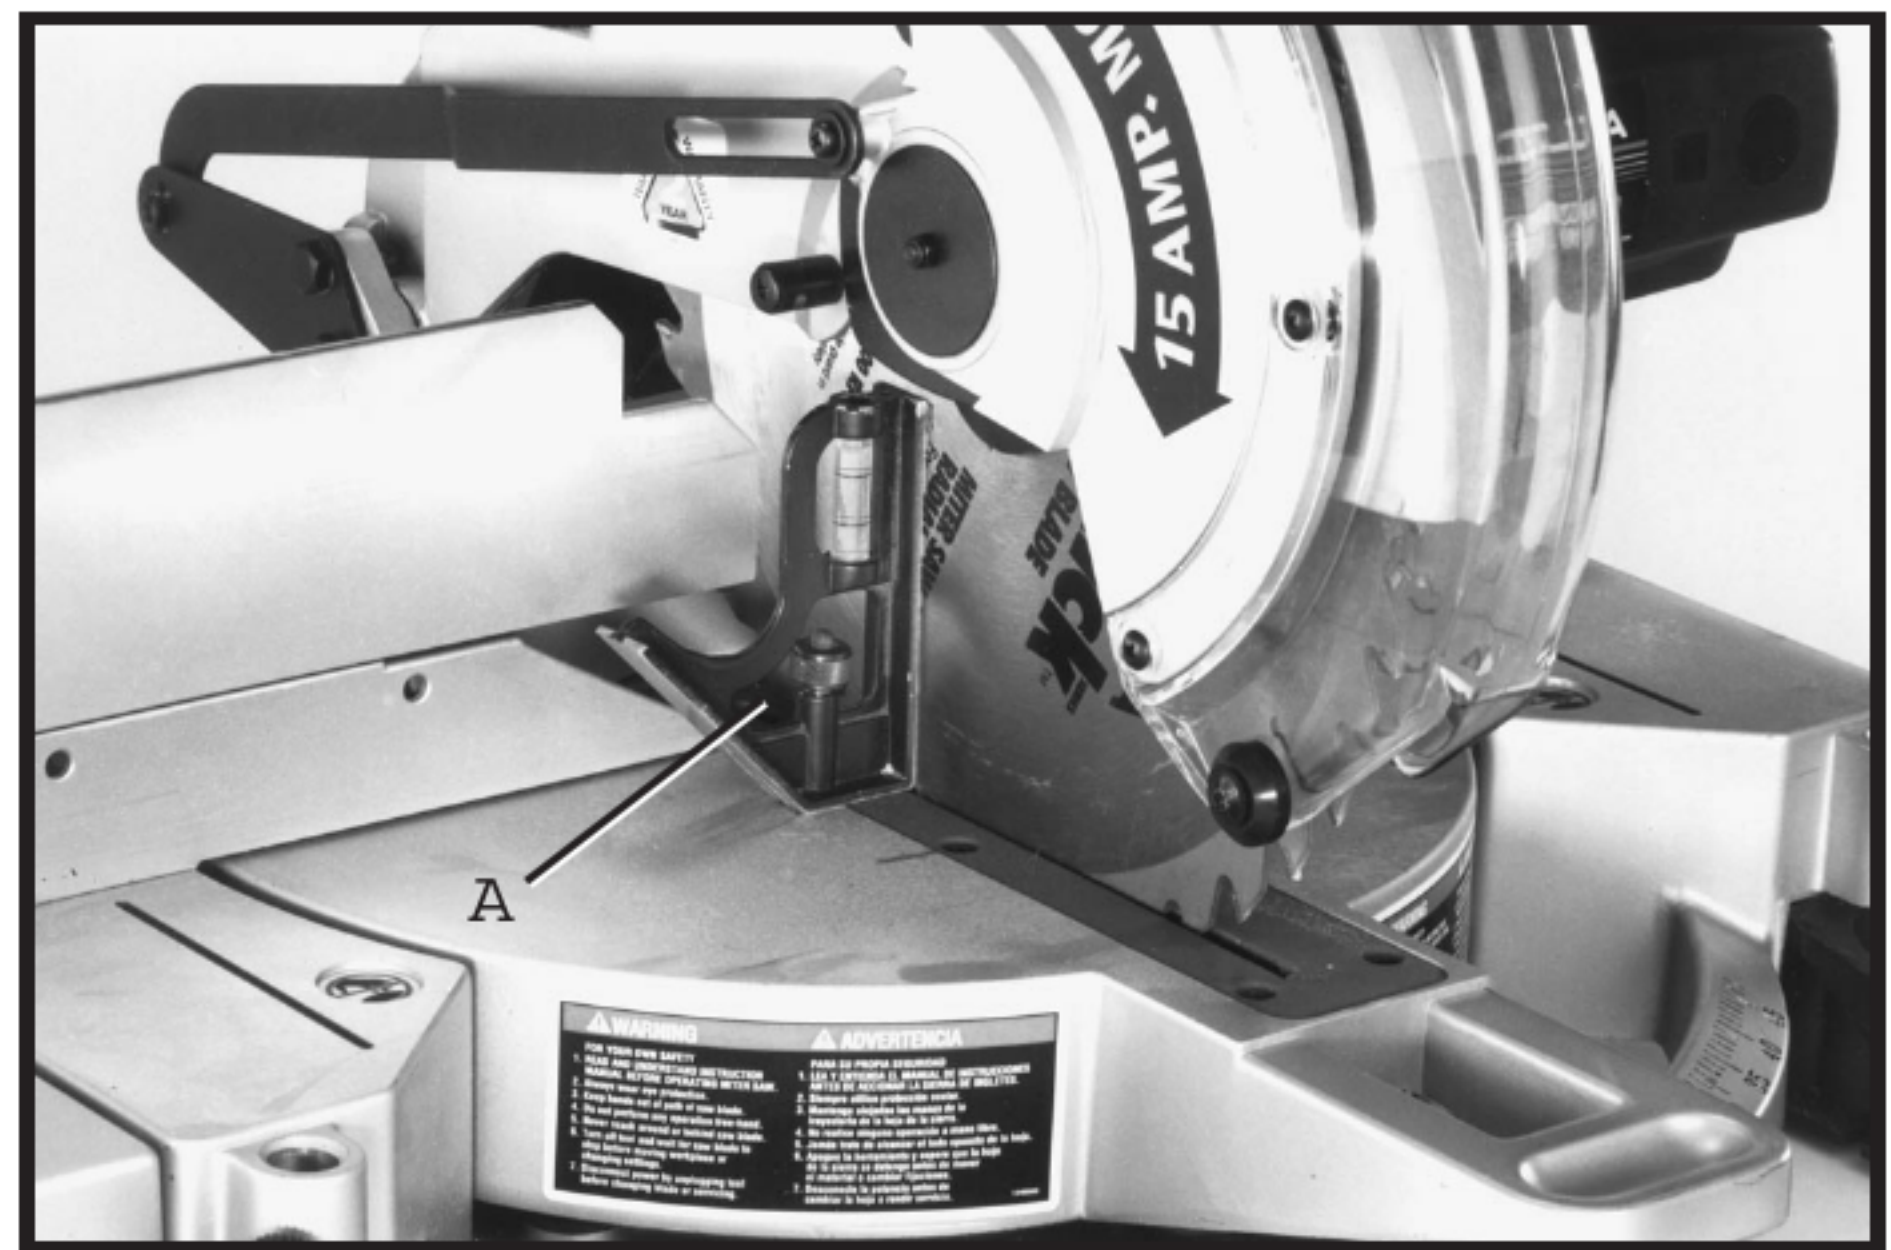

Fig. 30
3 Using a square (A) Fig. 30, place one end of the square on the table and the other end against the blade, as shown. Check to see if the blade is at 90 degrees to the table.